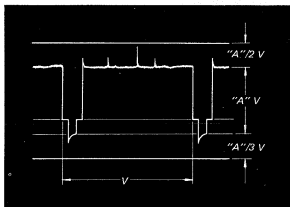

Fig. 6-1. White clip and dark clip levels
13. Adjust R238 so that the negative spike in the vertical blanking pulse falls 30%  $\pm 10\%$  below sync tip amplitude. See Fig. 6-1.
14. Adjust R237 (White Clip) so that extreme peak-white parts of the waveform are  $A + A/2$  volts (p-p) as shown in Fig. 6-1.